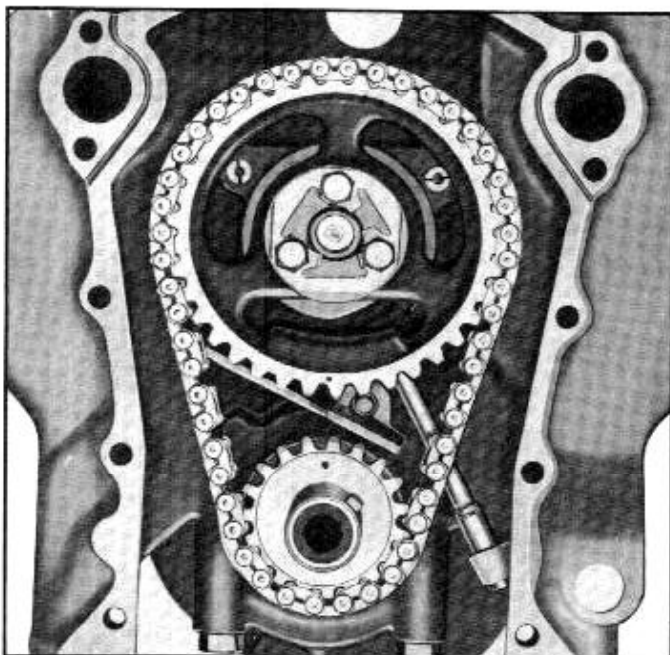

Fig. 6C-39—Alignment of Timing Marks
5. Place camshaft sprocket on camshaft to align holes in sprocket with those of camshaft. (Do not install bolts at this time.) Rotate camshaft and sprocket until timing marks on sprockets are adjacent and in same vertical line. Remove camshaft sprocket and install on timing chain so timing mark remains in same relative position. Holding the camshaft sprocket and timing chain as shown in figure 6C-38, position chain around crankshaft sprocket and install camshaft sprocket on camshaft. Install new lock plate and tighten three bolts to 15-18 lbs. ft. torque. Bend lock tabs against flat side of bolt heads.